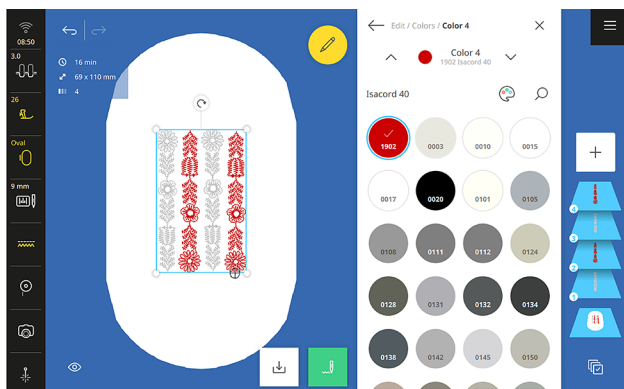

Fig. 25
19.  Using the Change Thread Color icon, alternate the design colors with Isacord 0015 and 1902 (Fig. 25).